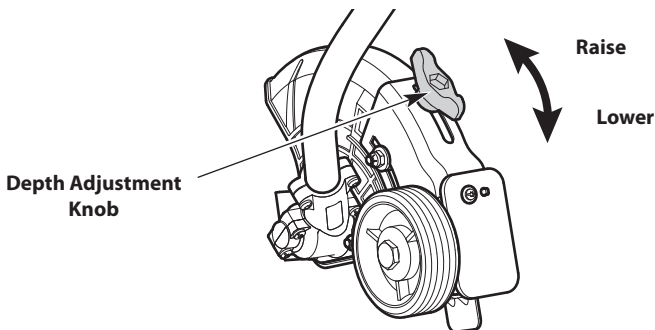

Fig. 15
1. Loosen the depth adjustment knob (Fig. 15).